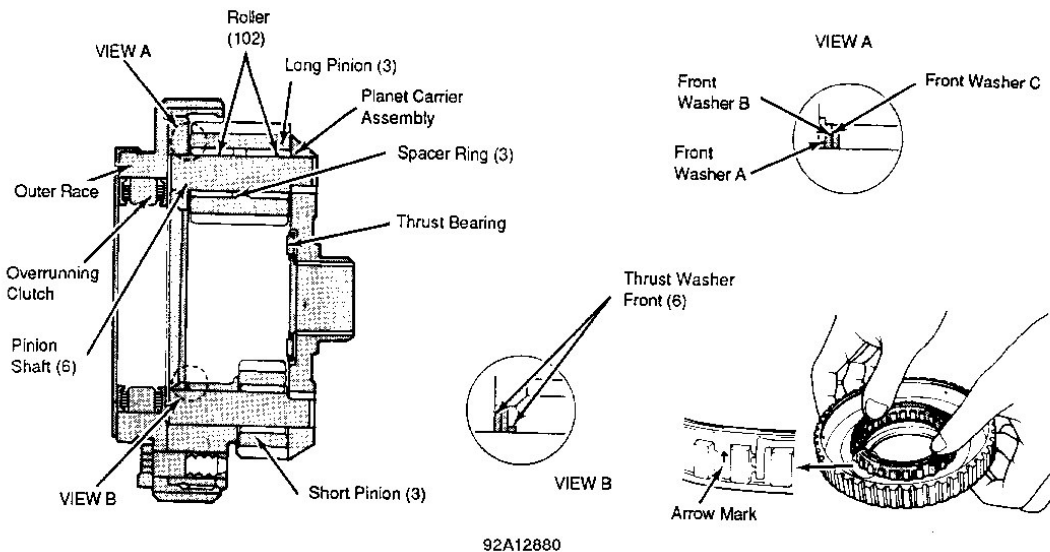

Fig. 14: Cross-Sectional View of Planetary Gear Set
2. Align holes in front and rear thrusts with shaft hole of carrier. Install short pinion, spacer bushing and 2 front thrust washers and align holes. Insert pinion shaft. Install end plate in overrunning clutch outer race. Push overrunning clutch in outer race. Ensure proper installation direction. See **Fig. 14**.